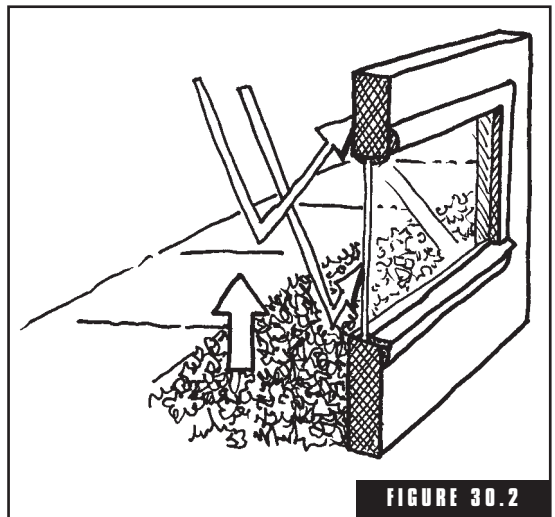
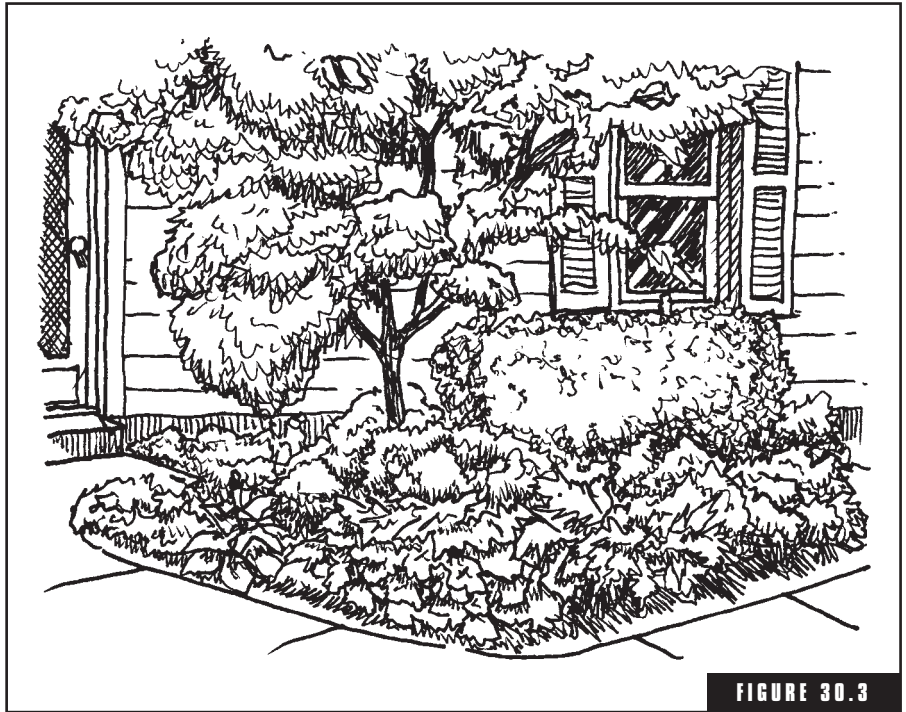

FIGURE 30.2
FIGURE 30.3
- Ground cover can create a cool buffer zone immediately next to the house, in pleasantly planned beds. This is where the plant respiration-evaporation process is very effective. At the same time, ground cover will help prevent sunlight from reflecting against the home's exterior walls, thus keeping the siding materials cooler (Fig. 30.2). Often, the most effective plantings may include a multipurpose combination of different-height species (Fig. 30.3).